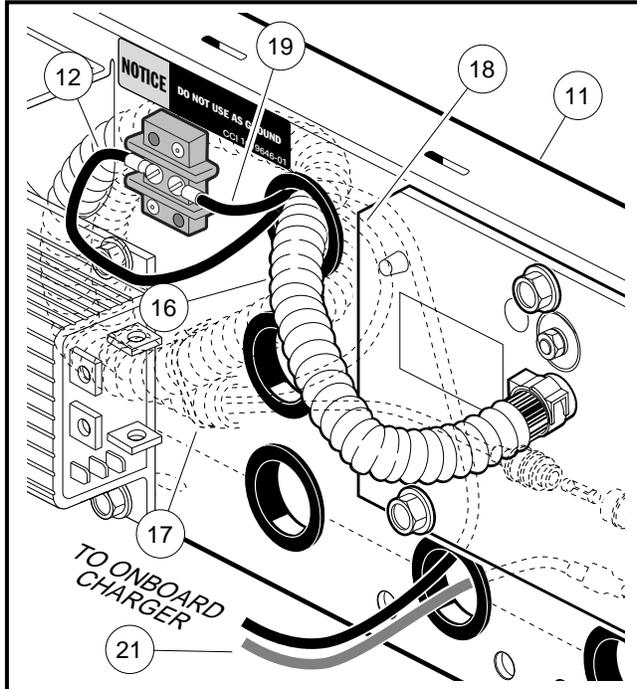

Figure 14-23 Disconnect Black Charger DC Cord
4. Remove 10 gauge black charger DC cord wire (12) from the terminal strip (**Figure 14-23, Page 14-25**).